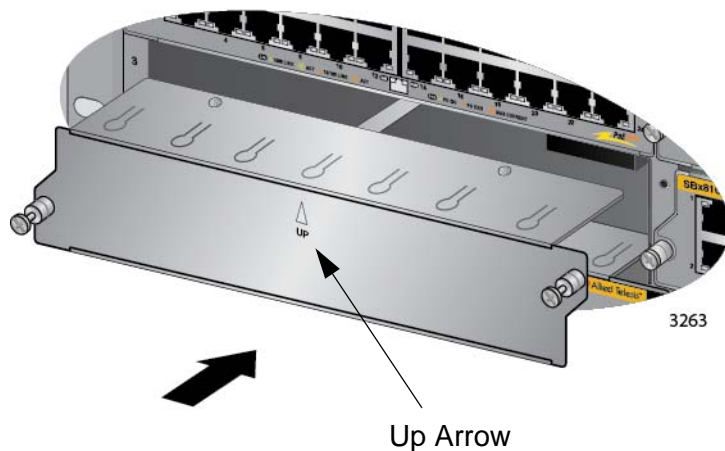

Figure 100. Installing a Blank Slot Cover
1. Position a blank slot cover over an unused slot, as shown in Figure 100. The up arrow on the panel must be pointing up.